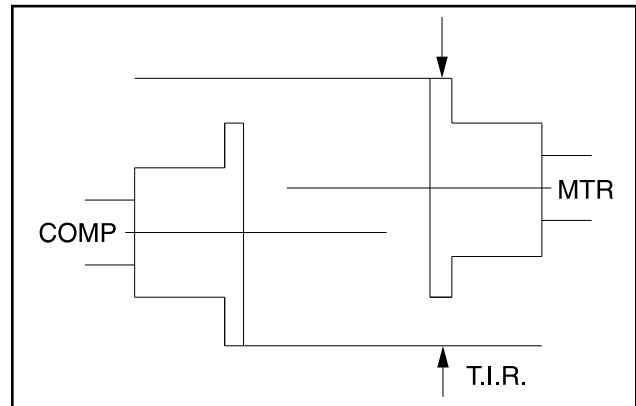

**Figure 3 - Dial Indicator At 6 O'clock**
4. Rotate both coupling hubs together 180° (6 o'clock position), as shown in Figure 3. At this position the dial indicator will show TOTAL angular misalignment.